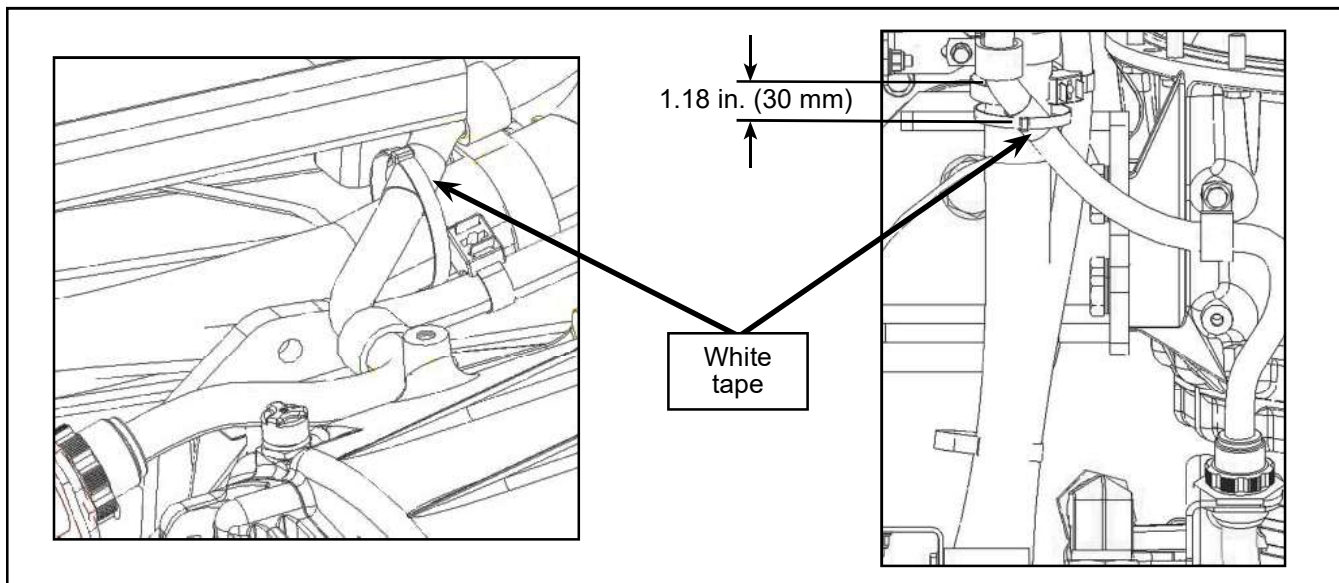

Figure 21 - At the White Tape Attach the Harness at the Shown Location with a Cable Tie (Side and Top View)
- 2.2.3. Keep following the original routing and secure the harness with the removed P-Clamps. Before installing the last P-clamp connect the harness connector on transmission. Then secure the harness N99235 using one cable tie and the white tape as reference (see Figure 21).